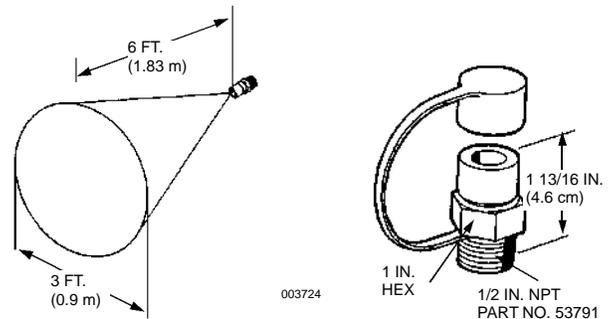

FIGURE 17
► Three types of nozzles are approved for use with the A-101/LT-A-101 system. One type is the F-1/2 nozzle. This nozzle gives a 180° fan shape pattern and can be used for either total flooding or local application. The second type of nozzle is the C-1/2. This nozzle gives a cone pattern and is used for direct application to a vehicle component or burning surface. The third type of nozzle is the V-1/2. This nozzle produces a 160° fan shape pattern and is generally used for screening engine compartments, torque converters and all other hazard areas. All nozzles are constructed of brass and require protective blow-off caps. Exception: The F-1/2 nozzle can utilize either a blow-off cap or the opening can be packed with a good grade of extreme temperature silicone grease, such as Dow Corning No. 4. See Figure 17.